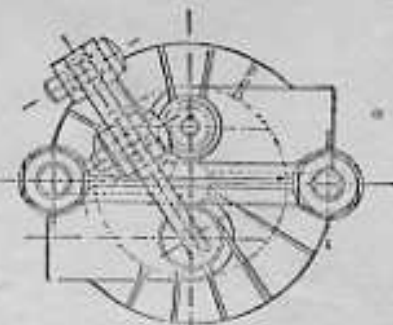

Fig. 11.
**Cylinder Cover.** Fig. 11 is a "plan" view of the cylinder cover No. 401, showing the "exhaust valve striker No. 415" and the "assembling cross piece No. 422."